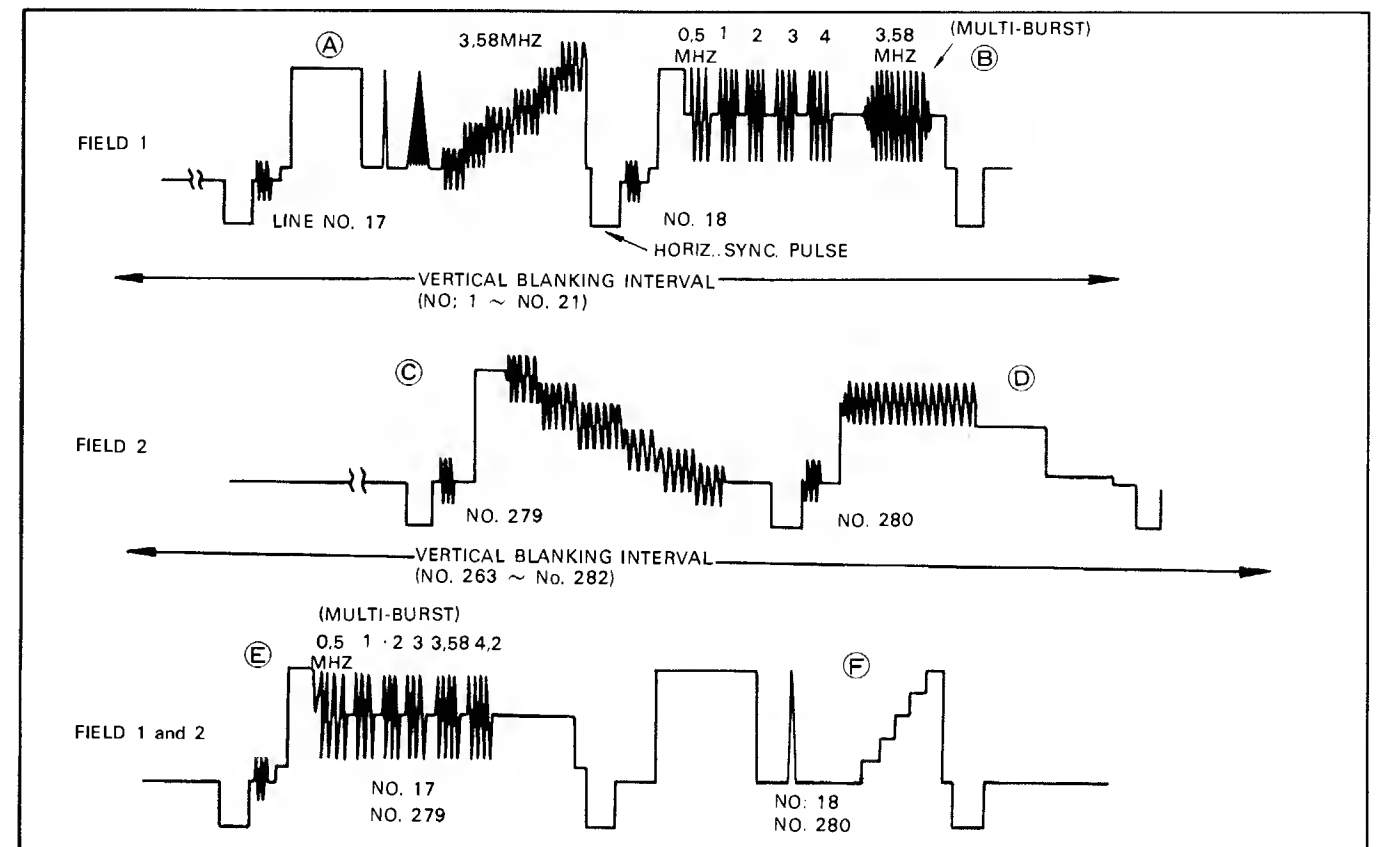

Fig. 11 VITS signal, Fields 1 and 2
Many television servicing procedures can be performed using single-trace operation. These are outlined later in the application section covering single-trace operation. One of these procedures, viewing the multi-burst signal in the VITS (vertical interval test signal), can be accomplished more effectively using a dual-trace oscilloscope. The VITS signal is specifically used for characteristic checks of the transmission system of a broadcast station or a network including repeater stations or for changeover of transmission system. In many cases, this signal does not appear in the normal video signals. Even when it is included in the signal, the method of inserting the information differs depending on the broadcast station. Also, the VITS information in Field 1 (1st interlaced scanning) and Field 2 (2nd interlaced scanning) are different in many cases. Examples of VITS signals are shown in Fig. 11.
The transmitted VITS has a specific frequency, amplitude and waveform as shown in Fig. 11. Television networks use precise signals for adjustment and checking of network transmission equipment, but the multi-burst signal in VITS can also be used for checking the operating condition of TV sets. The first frame of VITS at the "B"
section (line 18) in Fig. 11 begins with a white reference signal, followed by sine wave frequencies of 0.5 MHz, 1.0 MHz, 2 MHz, 3 MHz, 4.0 MHz and 3.58 MHz. This sequence of frequencies is called a "multi-burst" which is very useful.
9. Set the SWEEP TIME/DIV control to the 0.1ms/div position to expand the display. The VITS information will appear toward the right hand portion of the expanded waveform displays. The waveform information on each trace may appear as shown in Fig. 11. Because there is no provision for synchronizing the oscilloscope display to either of the two fields which comprise a complete vertical frame, it cannot be predicted which field display will appear on CH1 or CH2.
10. Pull the ◀▶ POSITION control outward to obtain an additional X5 magnification. Rotate the control moving the trace to the left until the expanded VITS information appears as shown in Fig. 11. Because of the low repetition rate and the high sweep speed combination, the brightness level of the signal displays will be reduced.